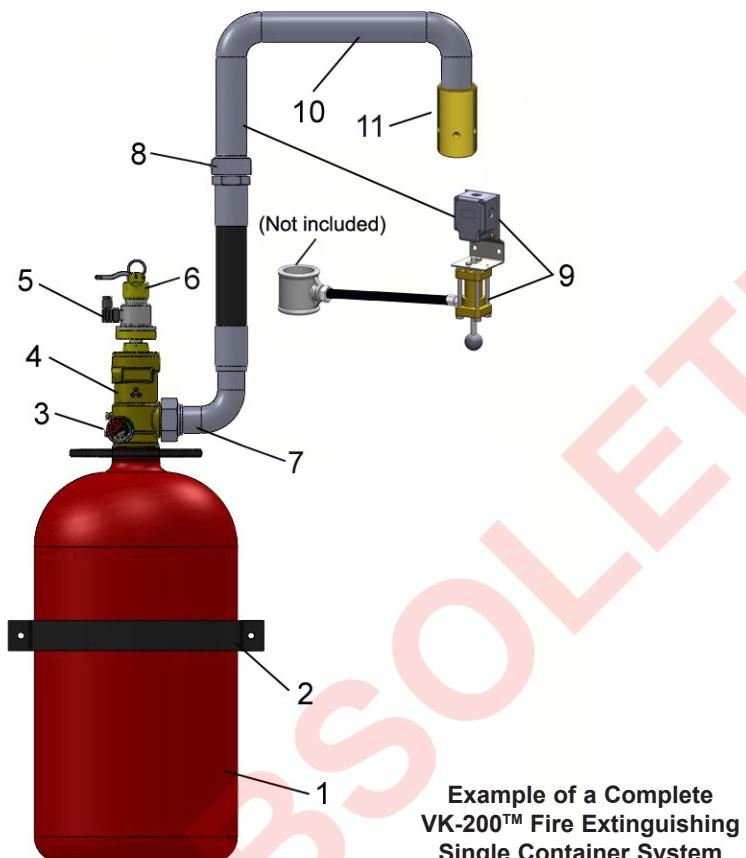

Figure 3
***Components required in addition to the items indicated in Figure 3 for a Single Container System. Refer to Table 4a on page 200e.